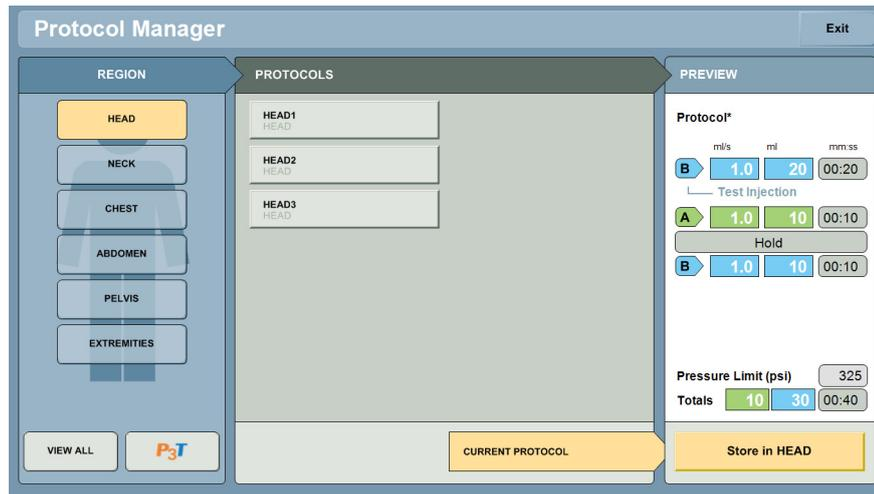

Figure 8 - 5: Protocol Manager
2. Under *Region*, select the folder in which to store the protocol (Figure 8 - 5: Protocol Manager).